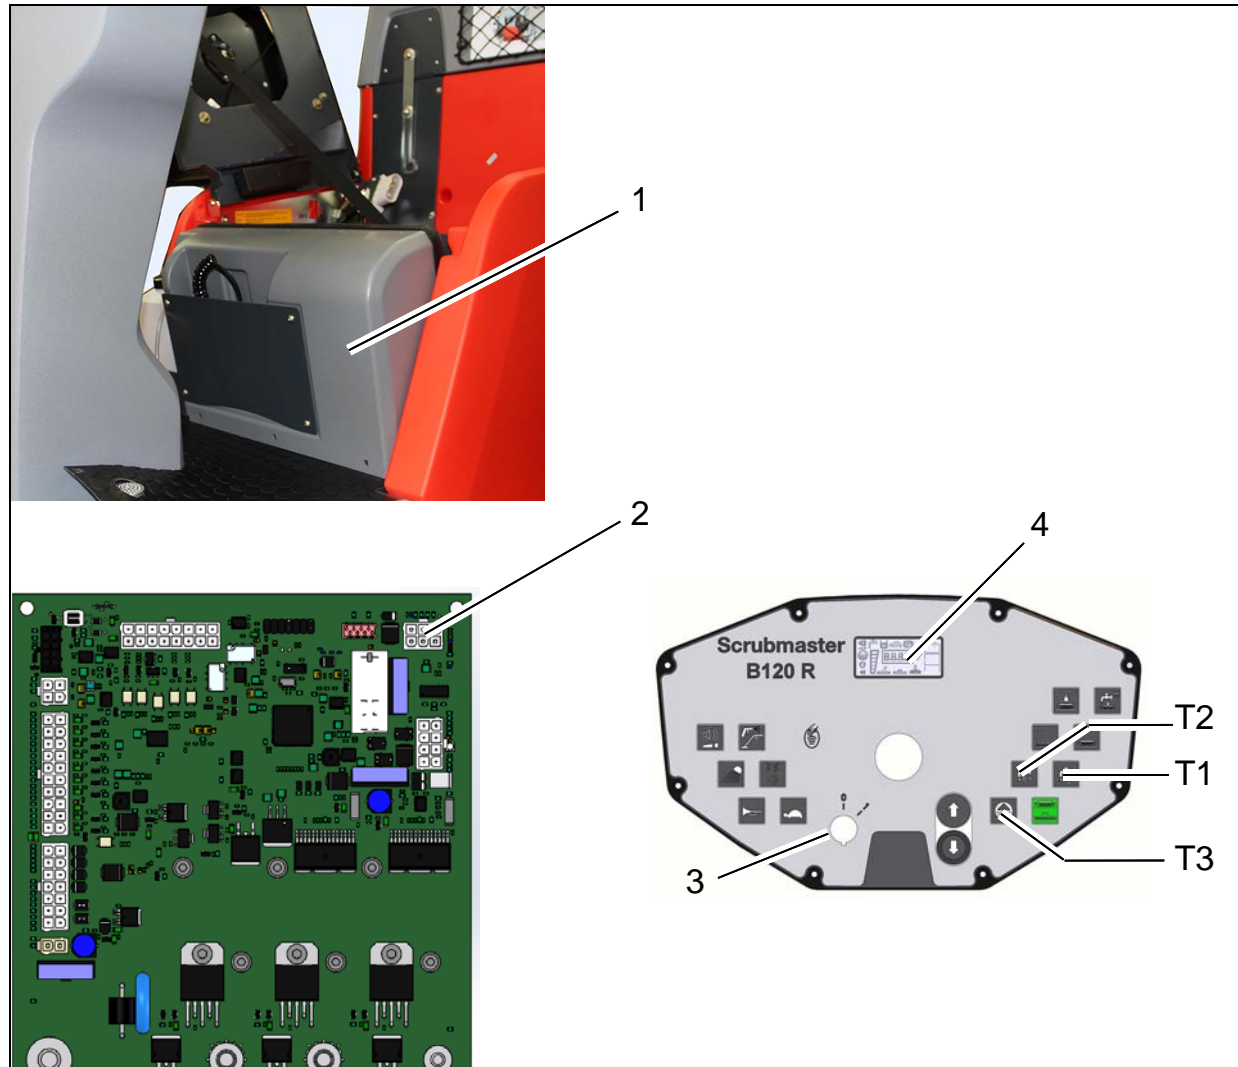

Fig. 8
Button 1 (Fig. 8/T1):
Button 2 (Fig. 8/T2):
Button 3 (Fig. 8/T3):
3. Remove the bolts of the cover (Fig. 8/1).
5. Connect the diagnosis plug 97097737 to plug A1.X3 (Fig. 8/2) of the control electronics A1.
Press button 1 and button 2 simultaneously, switch on the key switch (Fig. 8/3) and hold for 3 seconds. The right-hand dot flashes in the indicator (Fig. 8/4):
9. Remove the diagnosis plug (Fig. 8/2) from the control electronics and reattach the electronics housing.